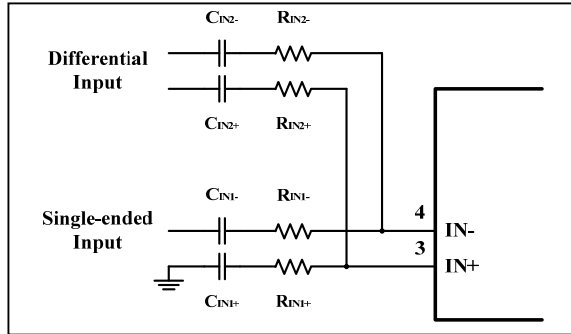

Figure 15 Application Circuit with Summing Differential Input and Single-Ended Input Signals
Figure 15 shows how to sum a differential input signal and a single-ended input signal. Ground noise may couple in through IN- with this method. It is better to use differential inputs. The corner frequency of the single-ended input is set by C_{IN2} , shown in Equation (6). To assure that each input is balanced, the single-ended input must be driven by a low-impedance source even if the input is not in use. The gain for each input source can be set independently by Equations (4) and (5).